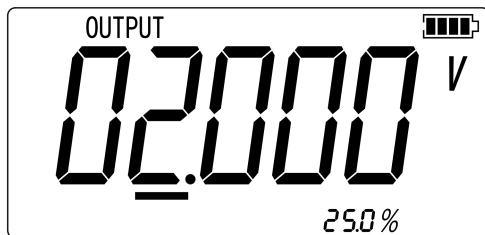

Figure 2.1-5
9. Press  or  to step between 0 and 100% in 25% step increments. The screen will display as shown in Figure 2.1-5.